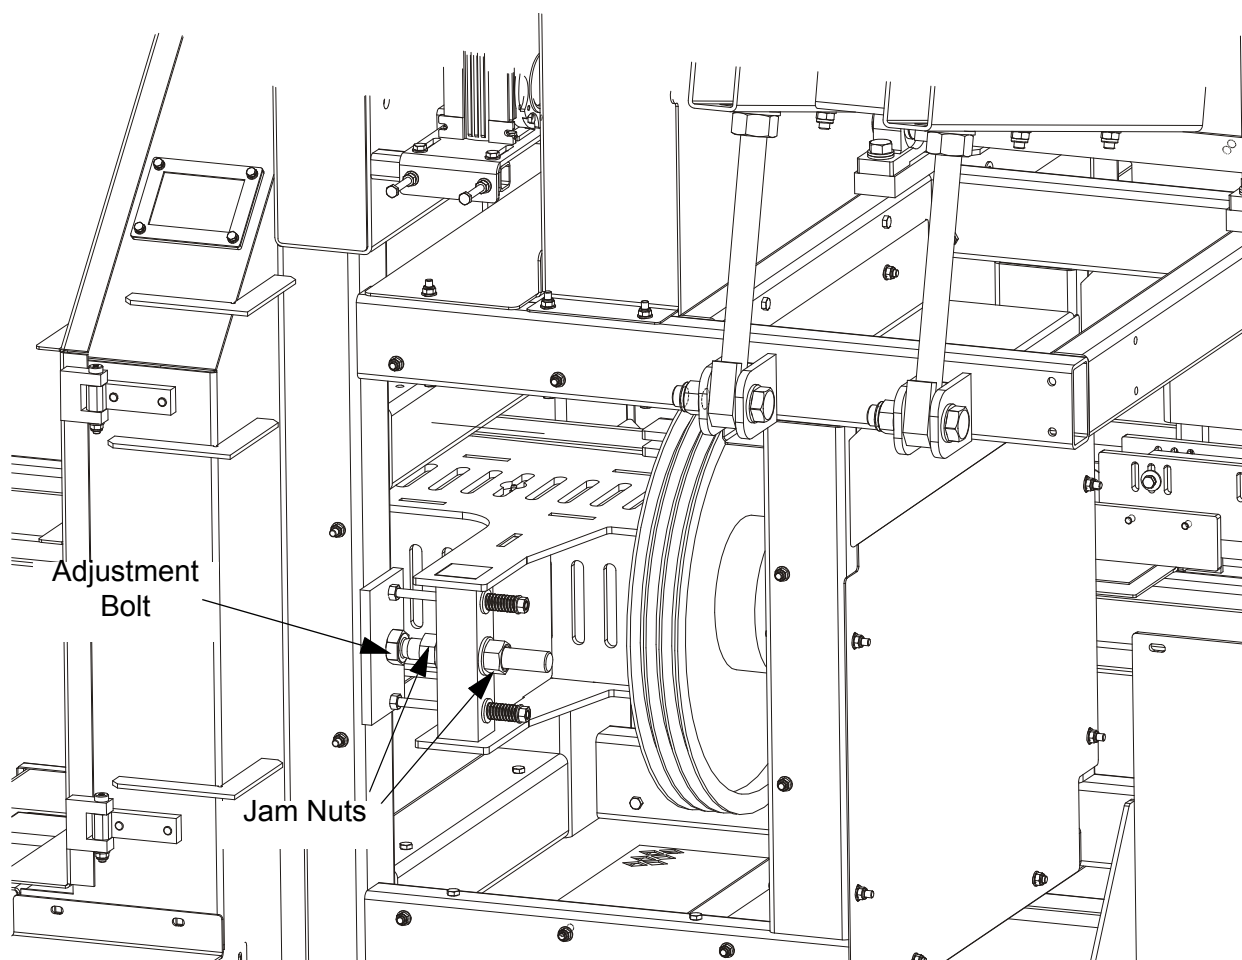

FIG. 6-8
**See Figure 6-8.** Remove the saw head side cover. Use the horizontal adjustment bolt to adjust the drive-side blade wheel. To move the blade back on the wheel, loosen the jam nuts on the adjustment bolt and turn the bolt counterclockwise. Tighten the jam nuts.